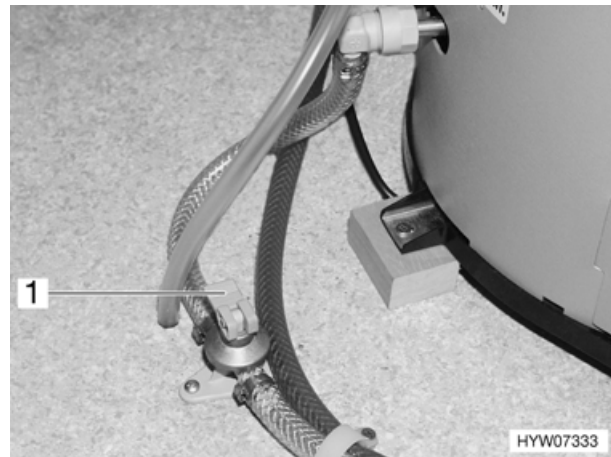

Fig. 76 Drain cock boiler
- Close the boiler drain cock (Fig. 76,1).
- Open boiler drain cock (Fig. 76,1). In order to do this, set the rocking lever on the boiler drain cock in a vertical position.